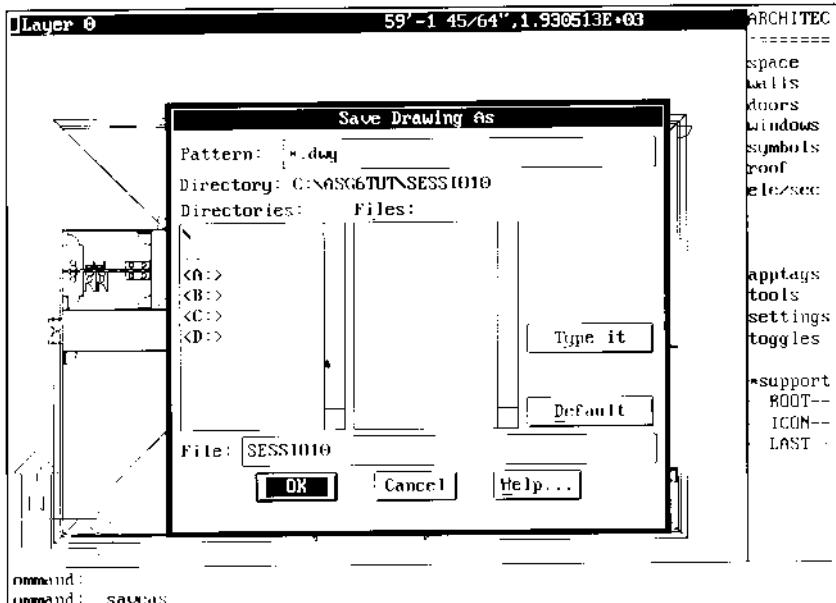

Figure 28.
3. Select Save As... to save the current drawing as SESSIO10 in the C:\ASG6TUT\SESSIO10 directory as shown in Figure 28.